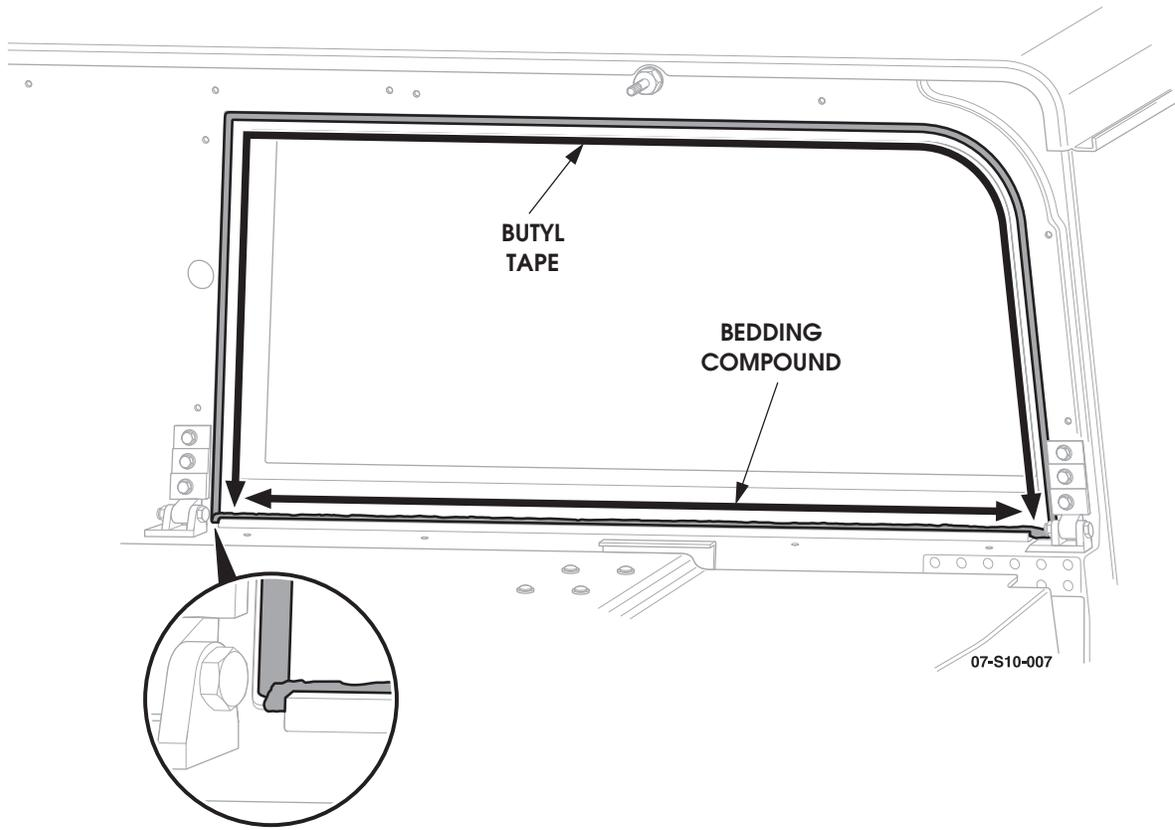

Figure 4: Sealant Placement Areas
3. Starting in one of the lower corners of the windshield frame, place a continuous strand of butyl tape up the side, across the top and down the opposite side to the other lower corner. The tape must be placed against the face and side (or crotch) of the weather strip area of the windshield frame (See Figures 4 & 5).